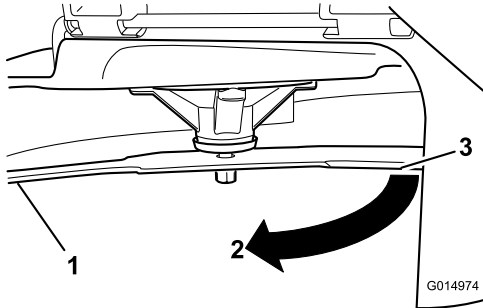

Figure 73
4. Rotate the same blade 180 degrees so that the opposing cutting edge is now in the same position (Figure 73).